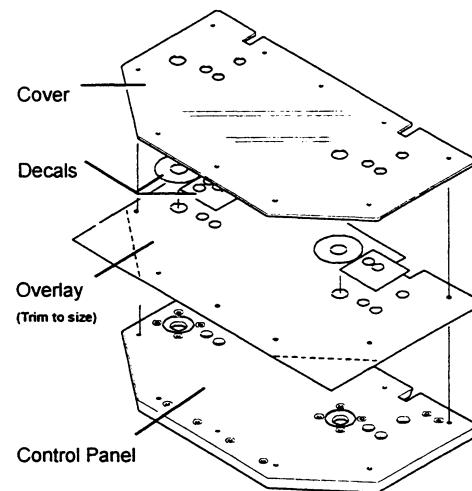

Figure 1: Overlay Installation
6. If there is an additional control panel cover, figure 1 (such as plastic or lexan) that will be utilized, cut any additional holes using the same template.
Control Panel Overlay Installation (See Figure 1)
14. Install the control panel cover, figure.1. (if required).